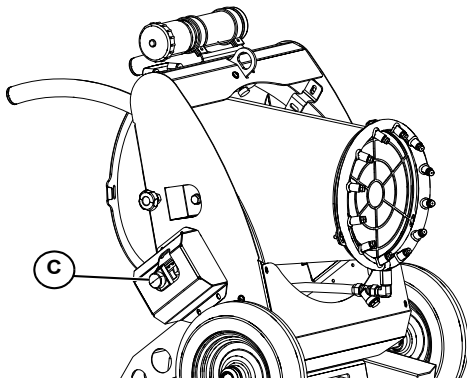

Figure 3-4. Stopping the Unit
3. See Figure 3-4. Press stop button (C).